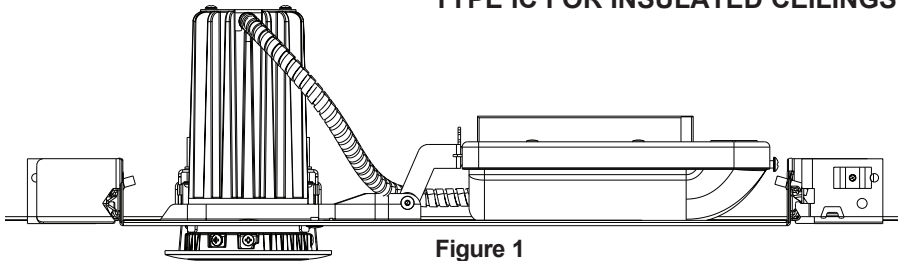

Figure 2
- Step 3.** Slide mounting frame, wiring compartment first, thru ceiling cut-out (Fig. 2).